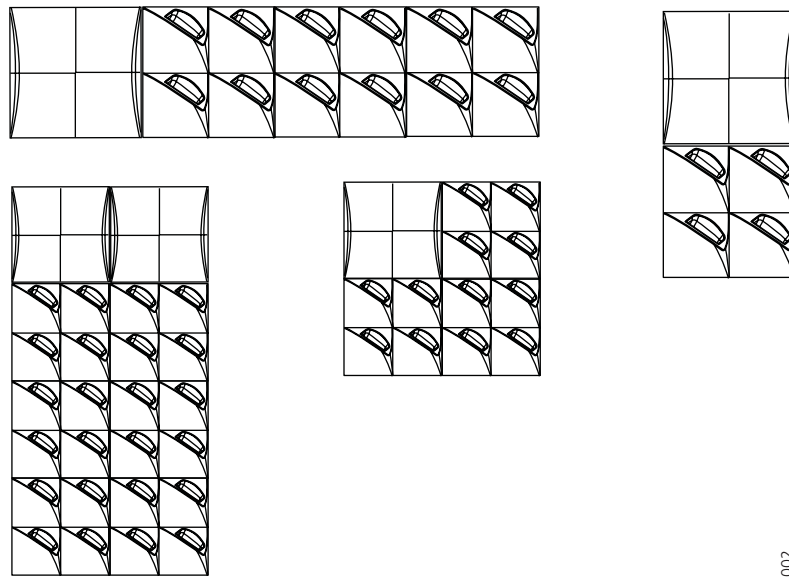

Figure 2. Four different ways to assemble the CR2 Charging Rack modules.
- The Power Supply CR24 should be mounted above or beside the charging modules (see figure 2 on page 4) due to the generation of heat.